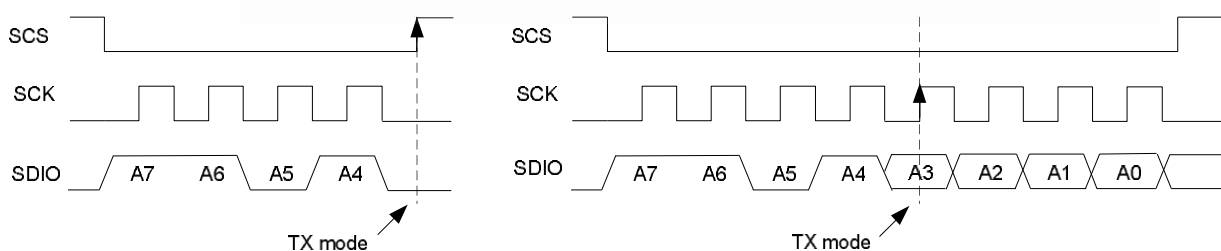

Figure 10.9 TX mode CommAnd Timing Chart
- Step4: Send Strobe commAnd of TX mode (Figure 10.9) to do TX delivery.